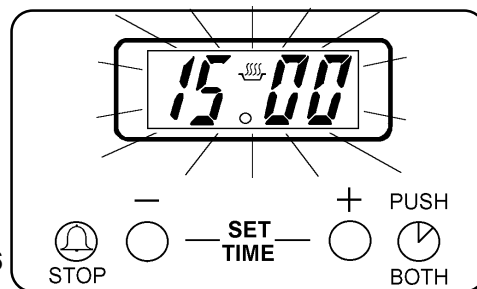

Fig. 6
The minute minder will begin to count down once set. At the end of the timed period, the minute minder will sound for up to 30 seconds and the display will flash showing the time of day. See Fig. 6.
- i) Ensure the electricity supply is switched ON and that the correct time of day is displayed, e.g. 9.00 a.m. as Fig. 6.